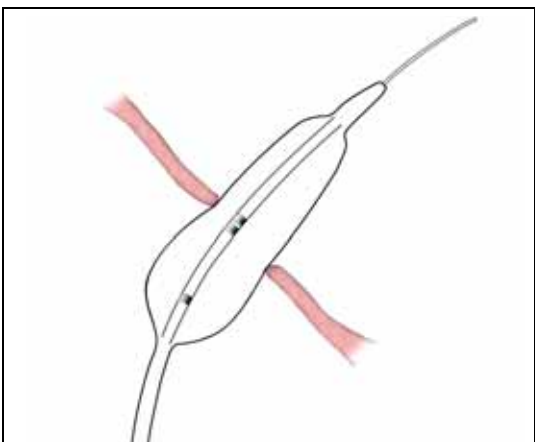

Figure 3. Minimum diameter measurement
9. Using echocardiography, adjust the image for best visualization, and measure the minimum diameter between the septal wall contact points with the balloon (figure 3). If a balloon waist is detected, radiographic measurement may also be used to confirm defect diameter.